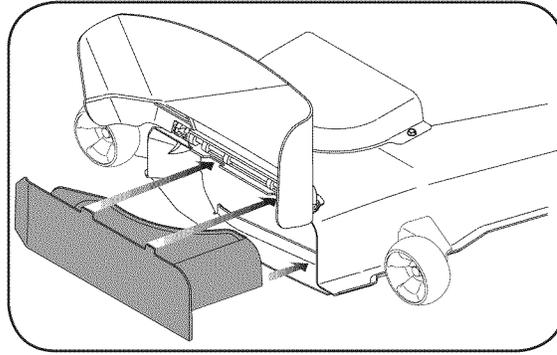

Figure 4-6
2. Pivot the discharge chute up to access the deck opening. See Fig. 4-6.
3. Insert the mulch plug, aligning the top edge of the plug with the deck as shown in the Fig. 4-6. Make sure the notches on the plug are in the slots on the deck opening.